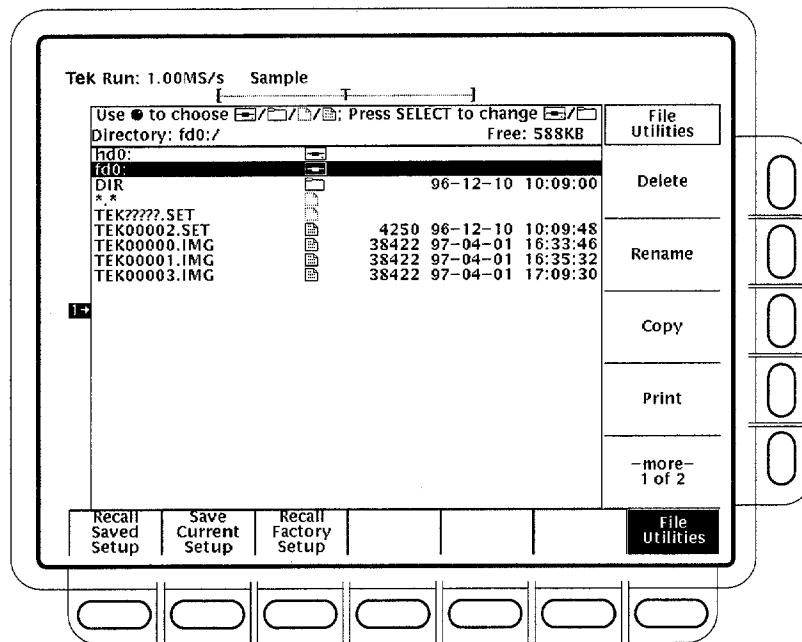

Figure 3–78: File Utilities
3. Press **File Utilities** in the main menu to bring up the File Utilities side menu. (See Figure 3–78.)
NOTE. The amount of free space on the active disk is shown in the upper right corner of the display. The oscilloscope shows the amount in Kbytes (or in Mbytes if the free space is 1 Mbyte or more). To convert the amount to bytes, you simply multiply the Kbytes amount times 1024. Thus, the 690 Kbytes shown in Figure 3–78 = 690 Kbytes x 1024 bytes/Kbyte = 706,560 bytes.